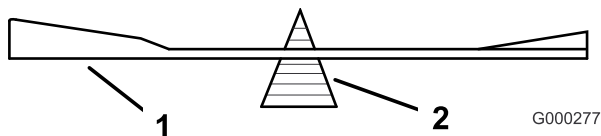

Figure 53
2. Check the balance of the blade by putting it on a blade balancer (Figure 53). If the blade stays in a horizontal position, the blade is balanced and can be used. If the blade is not balanced, file some metal off the end of the sail area only (Figure 53). Repeat this procedure until the blade is balanced.
Important: The sail part of the blade must be pointing upward, toward the inside of the mower to ensure proper cutting (Figure 53).
1. Install the blade, stiffener, curved washer, and blade bolt to the spindle (Figure 53).